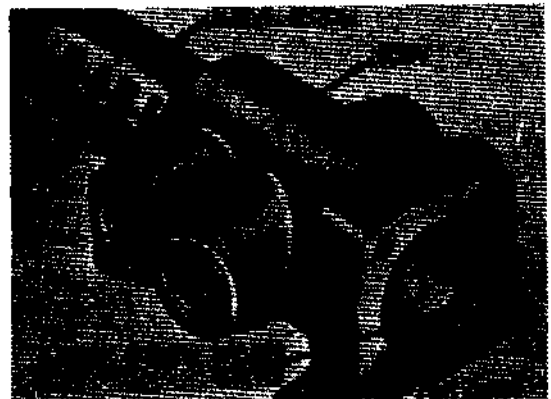
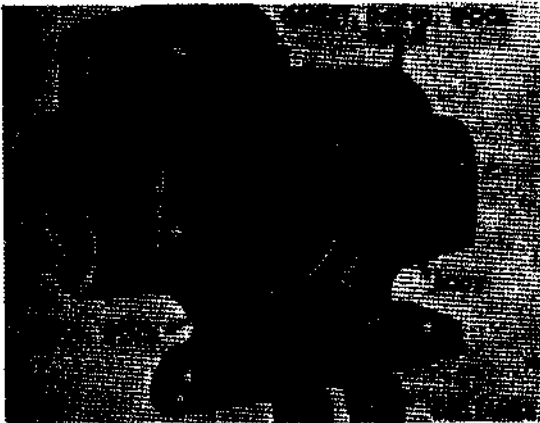

Figure 155. Assembly spool sleeve
Figure 156. Hydraulic control valve with spool sleeve O-ring gasket installed
- (7) Remove sleeve retainer (fig. 157). Remove spool sleeve O-ring gasket in the body by pushing spool sleeve (fig. 156) from lever end until gasket is exposed. Use a pointed instrument to remove gasket, being careful not to damage it.
- (8) Remove remaining spool sleeve O-ring body by pushing on end opposite lever end.
- (9) Remove remaining spool sleeve O-ring gasket (fig. 155) from body.
- (1) Caution must be used in the repair and assembly of the hydraulic control valve parts, especially the spool and spool sleeve. When installing sleeve in body and spool in sleeve, a twisting motion to the spool or sleeve will facilitate assembly. Before assembling, be sure all parts have been thoroughly cleaned in mineral spirits paint thinner or dry-cleaning solvent. Light lubricating oil should be applied to spool sleeve (M), spool (G), spool O-ring gaskets (F and H), and spool sleeve O-ring gaskets (J and L).
- (2) Place spool sleeve O-ring gasket in groove, opposite lever end of body (fig. 155).
- (3) Assemble spool sleeve (M) in body (K) from lever-end, with step cut end in
- (4) Push spool sleeve (M) through body (K) only far enough to uncover spool sleeve O-ring gasket groove in body (fig. 156) at lever end and assemble spool sleeve O-ring gasket (J) in groove.